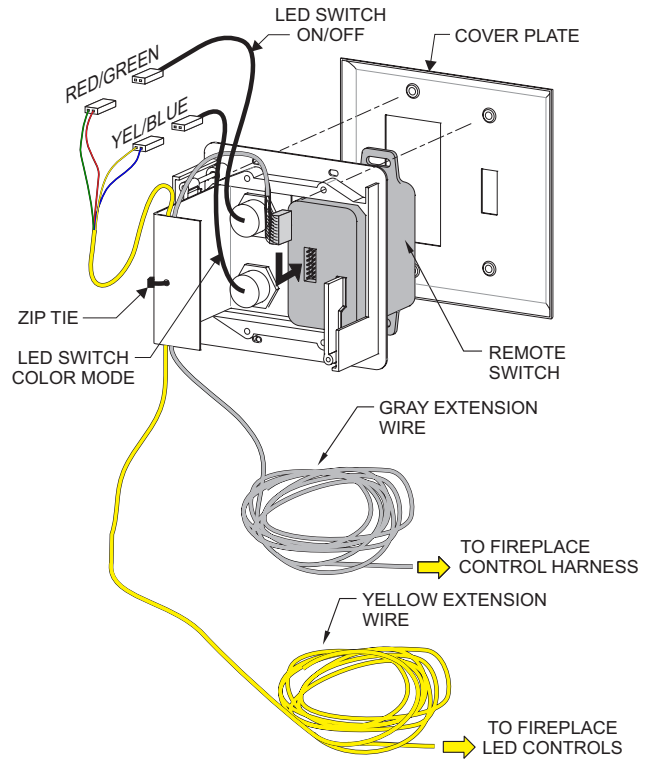

Figure 36
14. Route the yellow LED wire harness with gray remote receiver harness through the bushing. Mount the controls and connect the wiring. Secure wiring with provided zip tie as shown. See Figure 36.